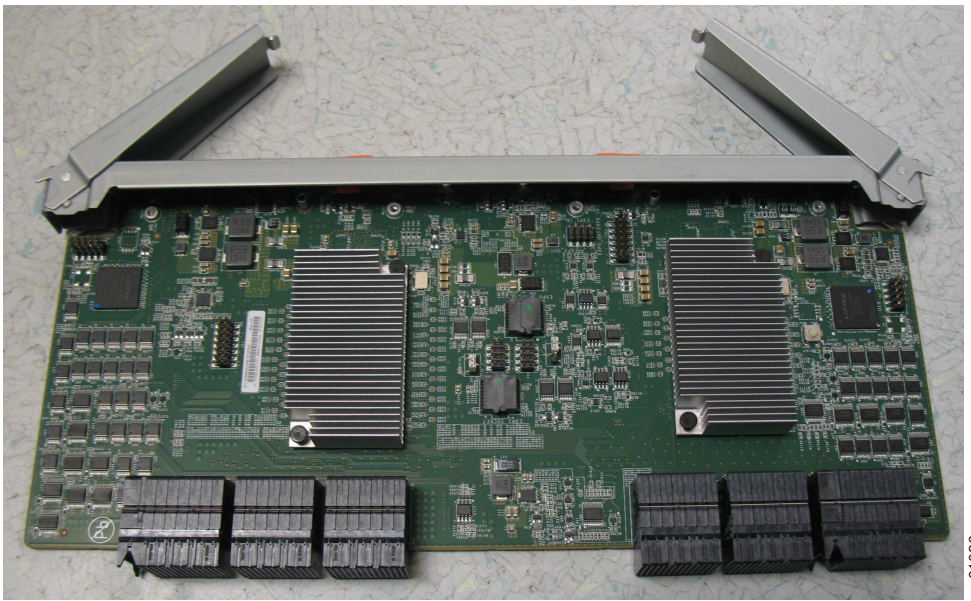

Figure 114. Secondary expander module removed from the enclosure
5. Place the secondary expander module in a safe location, as shown in Figure 114.